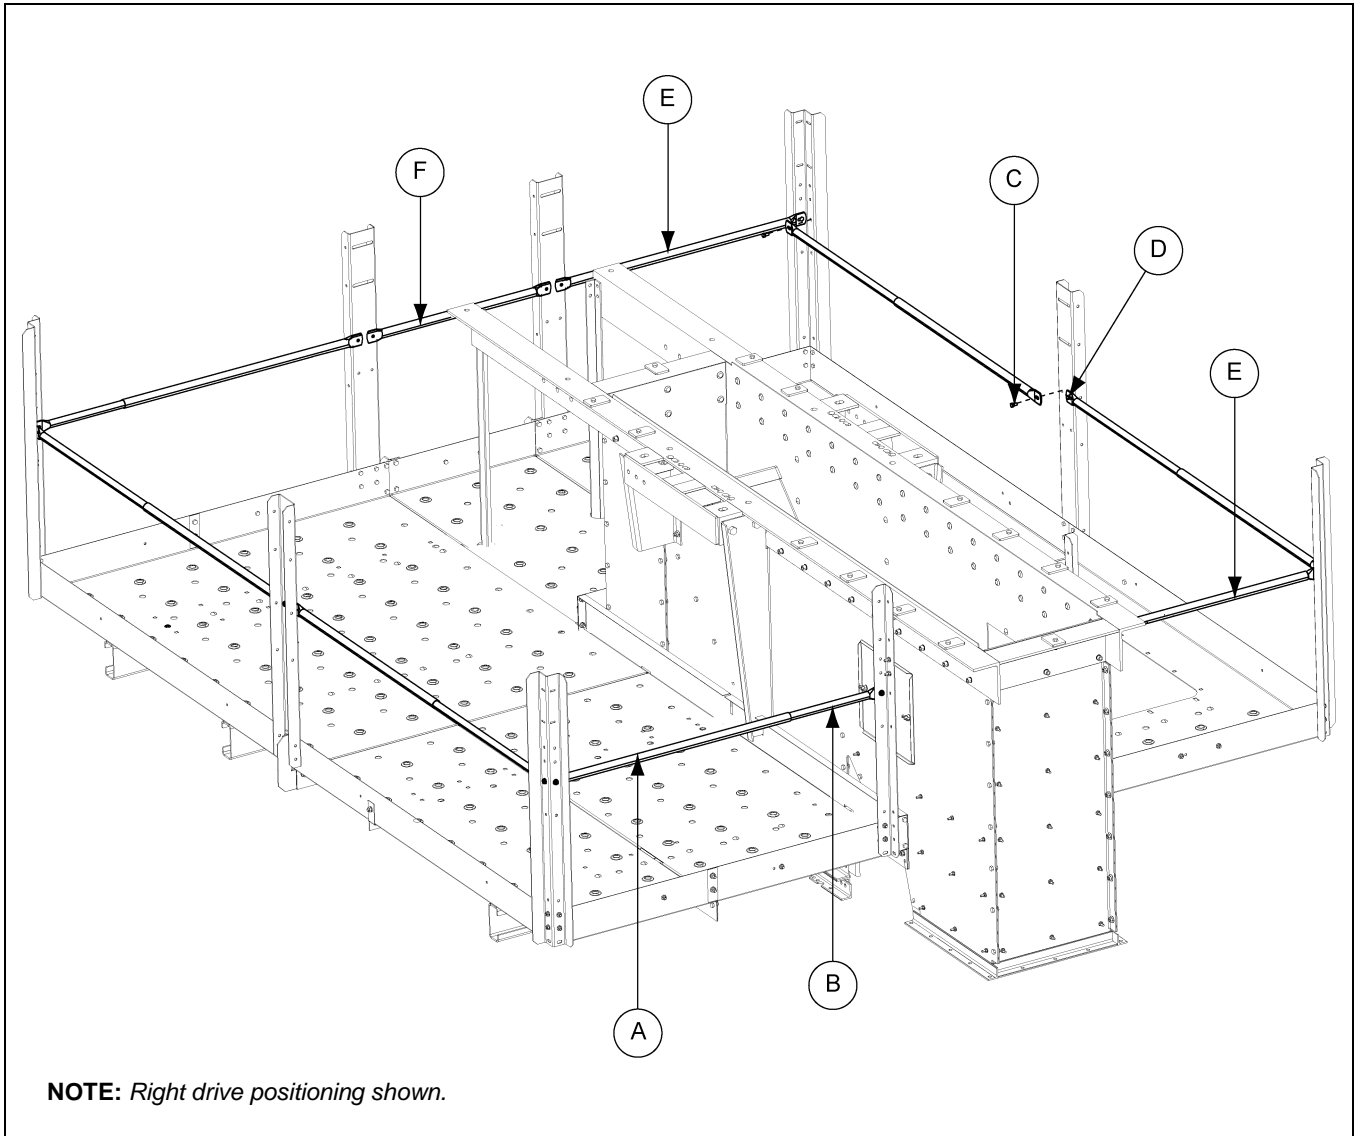

Figure 10K
3. Install the remaining Intermediate handrails around the platform using 5/16" x 3/4" bolts (S-6606) (C) and nuts (S-3611) (D). *(See Figure 10K.)*